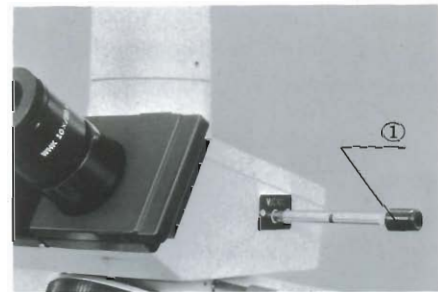

Fig. 13
- 1) The trinocular tube is provided with a light path selector knob to direct the light to the observation tube and/or to the photo tube in 3 positions. (Fig. 13)